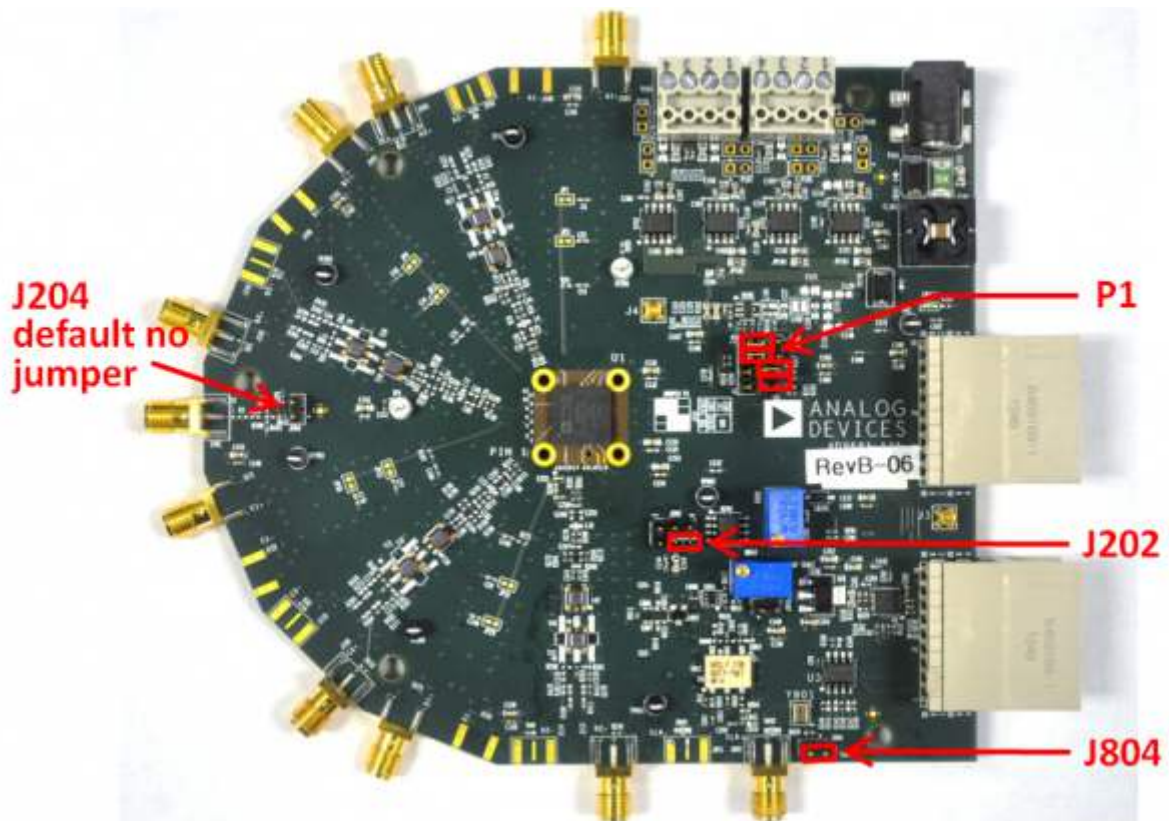

Figure 2. Default Jumper Connections for AD9681-125EBZ Board
2. On the ADC evaluation board, confirm that the jumpers are installed as shown in Figure 2.
Set the jumper settings/link options on the evaluation board for the required operating modes before powering on the board. The functions of the jumpers are described in Table 1. Figure 2 shows the default jumper settings.
J202	This jumper selects between internal V_{REF} and external V_{REF} . To choose the ADC's internal 1V reference, connect Pin 3 (DUT_SENSE) to Pin 5 (GND) as shown in Figure 2. To use the on-board AD822 buffered reference, connect Pin 2 (DUT_SENSE) to Pin 1 (AVDD), and connect Pin 4 (DUT_VREF) to Pin 6 (EXT_REF). Adjust external VREF to be 1.0V using potentiometer R202. To apply a reference voltage from an external off-board source, connect Pin 2 (DUT_SENSE) to Pin 1 (AVDD) and apply the reference voltage to Pin 4 (DUT_VREF). The AD9681 reference voltage is specified to be 1.0 V.